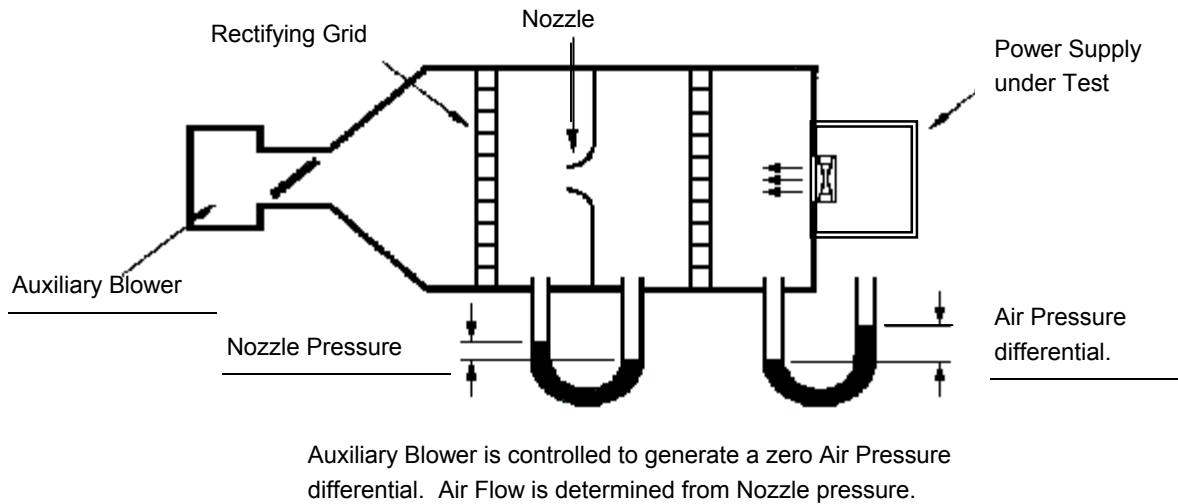

Figure 9. AMCA* Standard 210
- (1) Airflow in cubic feet per minute (CFM) through the power supply to be measured per AMCA* Standard 210 (see Figure 9).
- (2) The declared sound power level shall be measured according to ISO 7779 for the power supply unit alone (i.e. not in a system chassis) and reported according to ISO 9296.